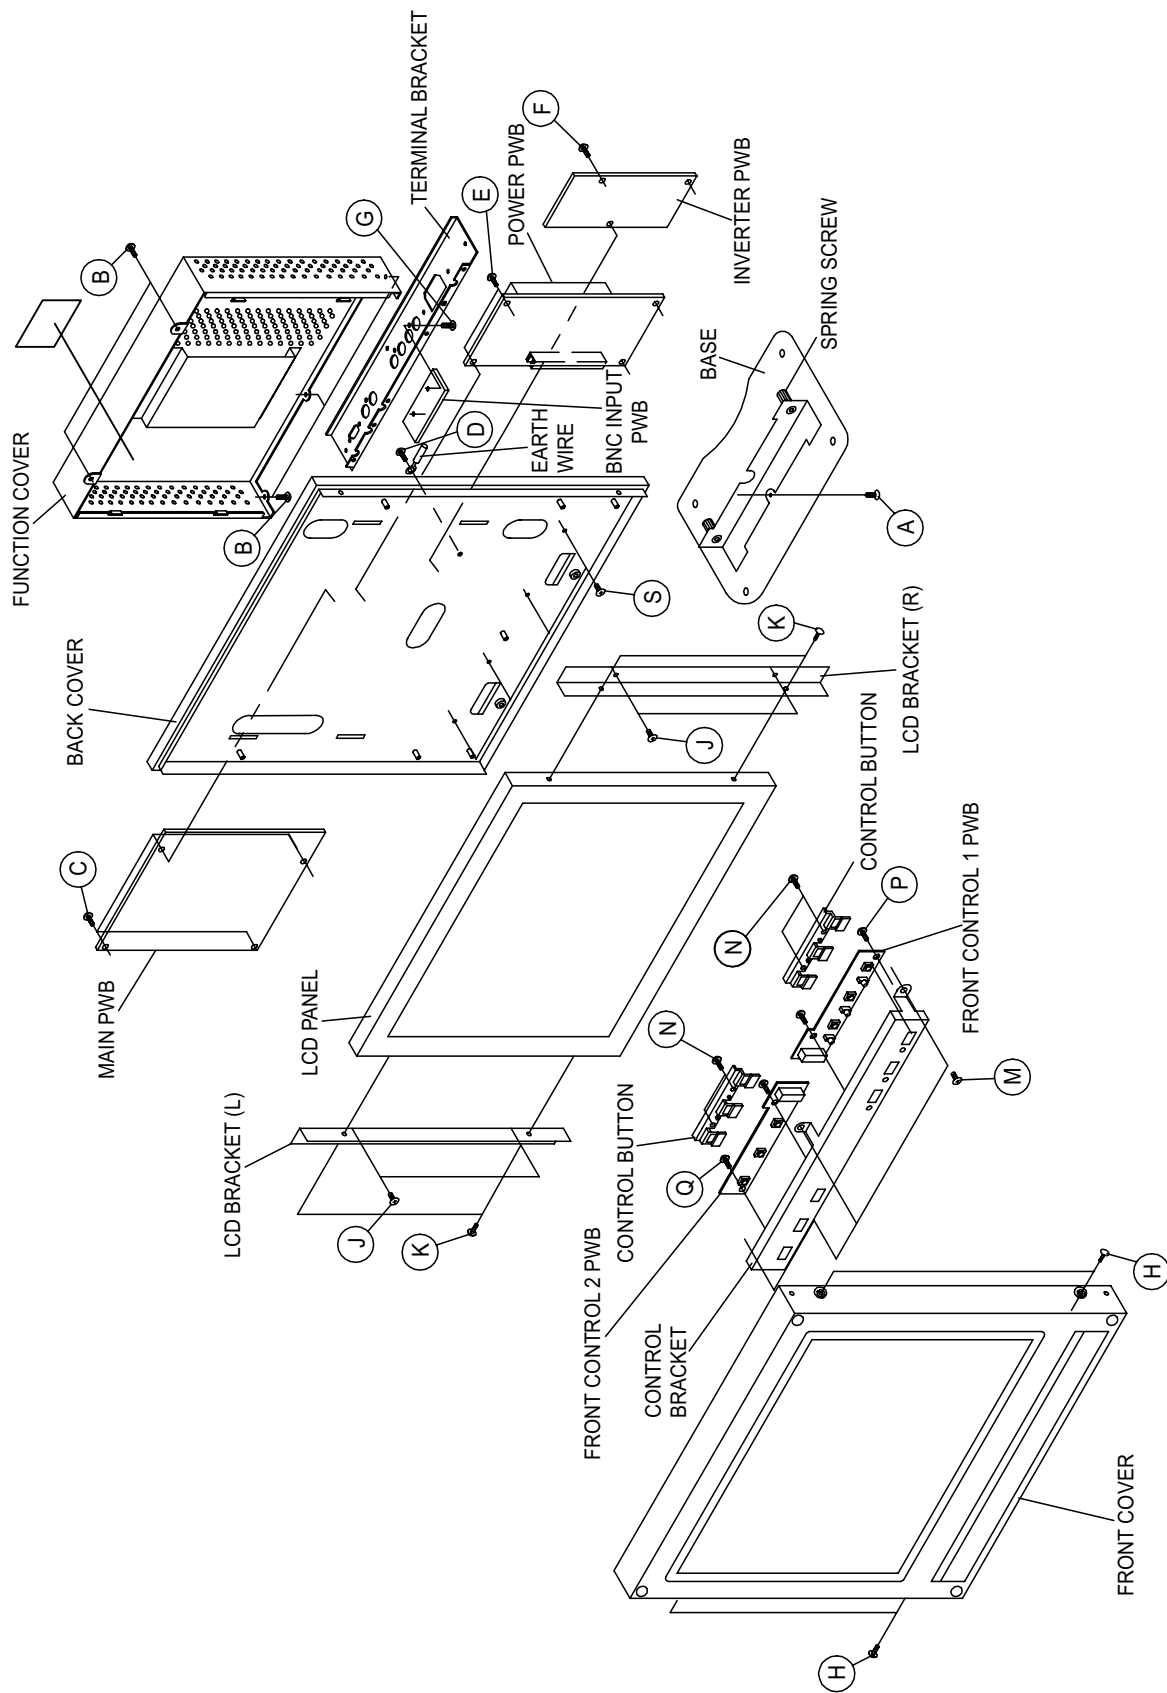

Fig. 1
- (1) Lie down the unit and let panel downward.
- (2) As shown in Fig.1, remove 1 screw [A] and loosen the two spring screws on BASE.
- (3) Slightly remove the BASE.
- (1) As shown in Fig.1, remove 5 screws [B].
- (2) Shift the FUNCTION COVER toward BASE and raise upward.
- (1) As shown in Fig.1, remove 4 screws [C].
- (2) Slightly remove the MAIN PWB upward.
- (1) As shown in Fig.1, remove 4 screws [D].
- (2) As shown in Fig.1, remove 1 screw [E], and remove the earth wire.
- (3) Slightly remove the POWER PWB upward.
- (1) As shown in Fig.1, remove 3 screws [F].
- (2) Slightly remove the INVERTER PWB upward.
- (1) As shown in Fig.1, remove 2 screws [G].
- (2) Slightly remove the BNC INPUT PWB upward.
- (1) Lie down the unit and let panel upward.
- (2) As shown in Fig.1, remove 4 screws [H].
- (3) Slightly remove the FRONT COVER.
- (1) As shown in Fig.1, remove 4 screws [J].
- (2) Raise LCD PANEL upward.
- (3) As shown in Fig.1, remove 4 screws [K].
- (4) Remove the LCD BRACKET (R) and the LCD BRACKET (L).
- (1) As shown in Fig.1, remove 3 screws [M].
- (3) Remove the CONTROL BRACKET upward.
- (1) As shown in Fig.1, remove 4 screws [N].
- (2) Remove two CONTROL BUTTON downward.
- (1) As shown in Fig.1, remove 2 screws [P].
- (2) Remove the FRONT CONTROL 1 PWB upward.
- (3) As shown in Fig.1, remove 2 screws [Q].
- (4) Remove the FRONT CONTROL 2 PWB upward.
- (1) As shown in Fig.1, remove 4 screws [S].